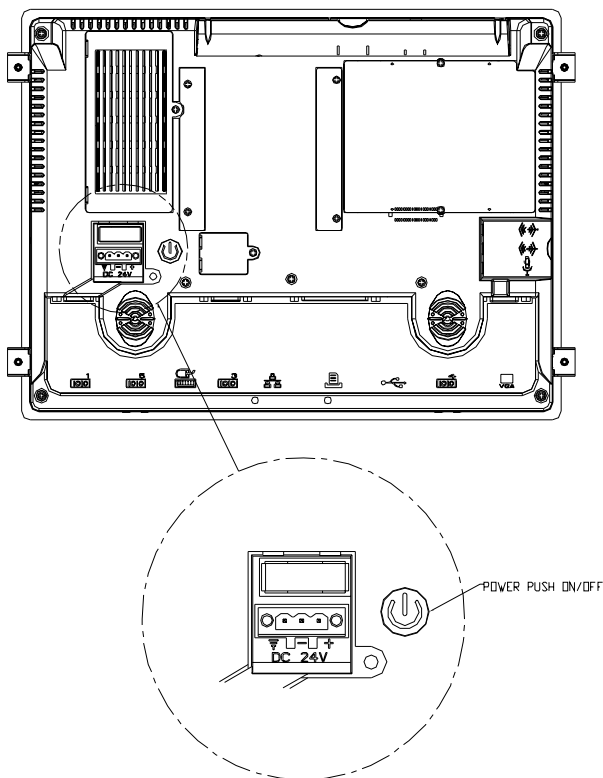

Figure 2.4: Pin Assignments on the Power Receptor and Power Button
- Step 5: Push the power button to power on the system as shown in figure 2.4.